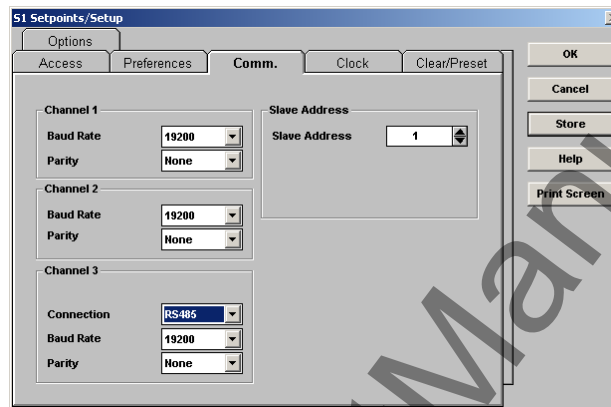

Figure 6–4: RTDPC SCREEN
A maximum of four (4) RRTD modules with a 369 can be daisy-chained together as illustrated in Figure 6–5: DAISY CHAINING RRTD MODULES on page 6–4. This provides the capability of monitoring up to 60 RTDs.